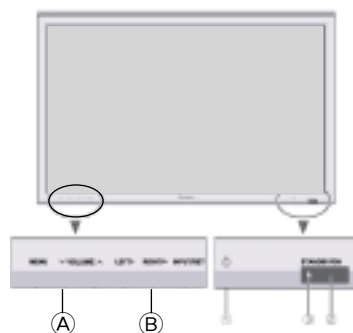

Fig.6
Press the "VOL - (A)" and "RIGHT+ (B)" two keys again in the key pad simultaneously and current system working mode is in the service factory mode, the system will leave the service factory mode and do the service factory preset function, after that, the system will back to normal operation mode. (See Fig.6)